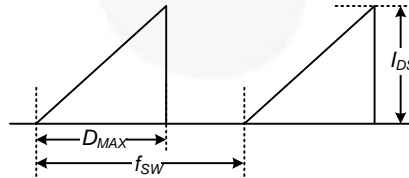

Figure 4. Repetitive Peak Switching Current
- Repetitive peak switching current when the inductive load is assumed: limited by maximum duty (D_{MAX}=0.73) and junction temperature (see Figure 4).